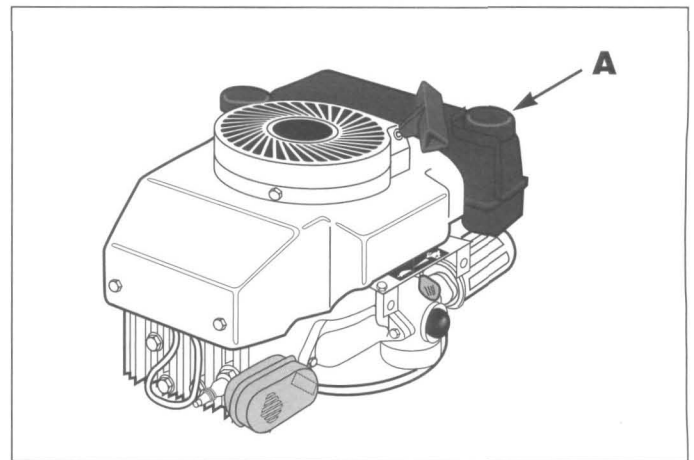

Figure 7: Fill fuel tank.
B. Clean area around fuel fill cap and remove cap (A in Figure 7) from fuel tank.